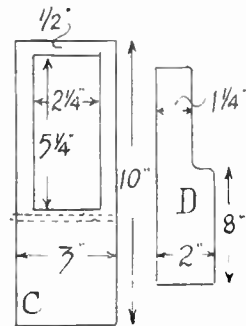

Fig. 4—Windows and fascia
The spaces between the sides of the shop and strips (A) represent the shop windows. To finish the front of the shop and also provide a rebate for the glass to cover the windows, cut from  $\frac{1}{2}$  in. fretwood two of (C), Fig. 4. It will be seen that a 7 in. by 14 in. panel of the wood will provide these and leave a bit over. Now glue and nail these parts over the window openings.
To finish off the constructional work, a fascia board will be needed. This should be cut from  $\frac{1}{2}$  in. wood or nearabouts, to shape at (D) Fig. 4, half length only being given. Glue it to the top of the shop, and stiffen it a little with small angle